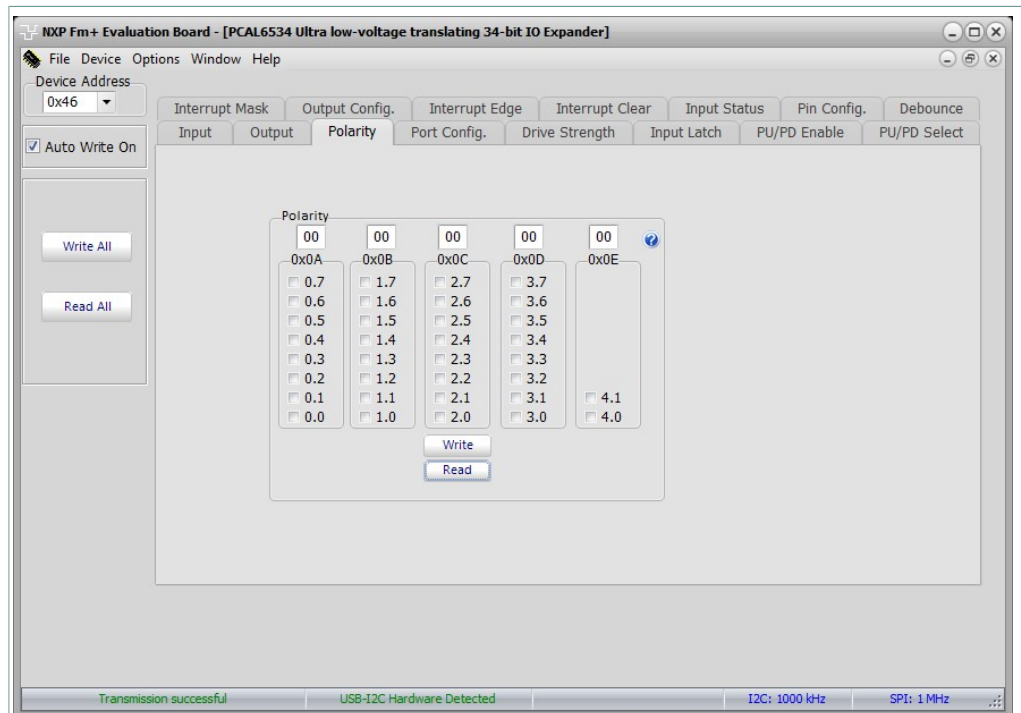

Figure 12. Device configuration screen for registers 0A-0E hex
- 4. Polarity registers read or write are shown in Figure 12.